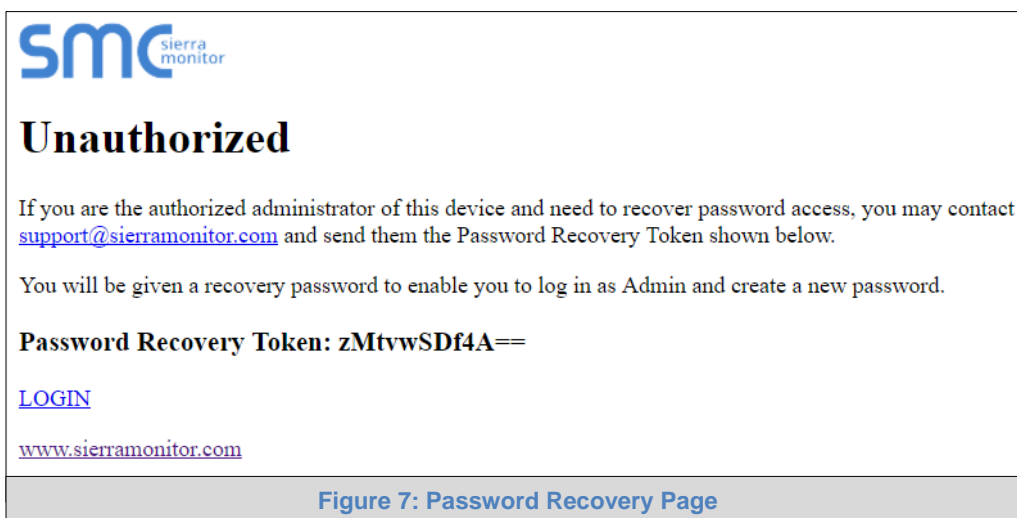

Figure 7: Password Recovery Page
- Figure 7: Password Recovery Page 11